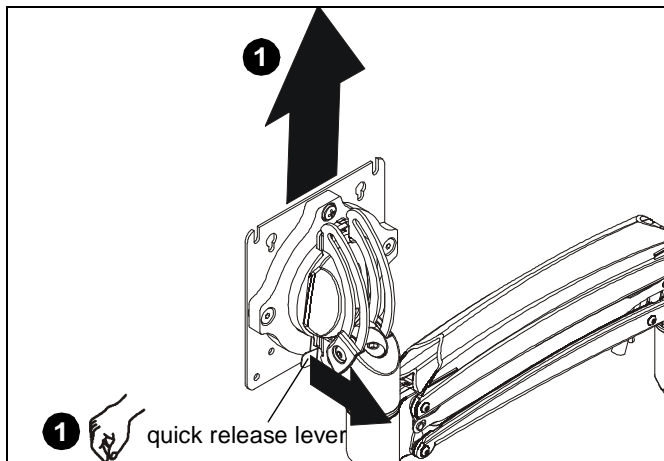

Figure 13
1. Remove quick release faceplate from mount by pulling quick release lever and sliding faceplate off mount. (See Figure 13)